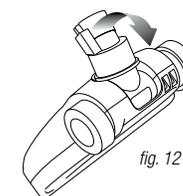

fig. 12
- 3 To clear the air hose, flip back the connector to straighten the air passage (fig. 12) and carefully remove any debris lodged in the air hose. **DO NOT USE SCISSORS OR OTHER SHARP OBJECTS AS THESE MAY DAMAGE THE HOSE.**